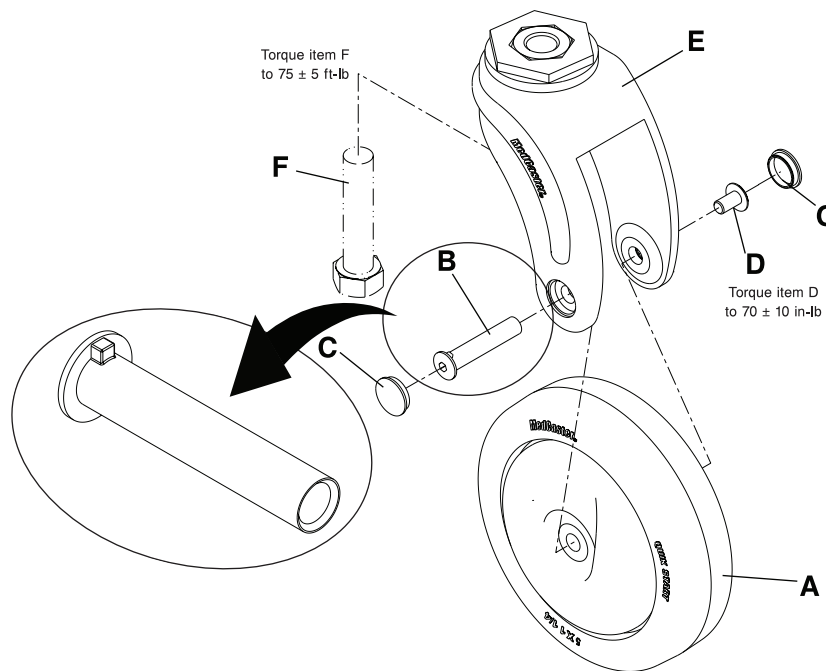

Figure 1-26: Front caster assembly replacement
2. Using a pick, remove and discard the caster wheel axle barrel nut covers (C) (Figure 1-26 on page 1-42).
3. Using two 5/32" hex wrenches, remove the axle barrel nut (B) and axle screw (D). Discard the axle barrel nut and axle screw.
4. Grasp the front caster wheel (A) and pull outward to remove the wheel from the fork (E). Discard the front caster wheel.
5. Using a 3/4" socket and a 3/8" drive ratchet, remove the bolt (F) to remove the fork (E) from the chair frame. Discard the fork.
6. Reverse steps 2-5 to install the supplied front caster wheel assembly. Using a 3/8" drive torque wrench (ft-lb), torque the bolt (F) to  $75 \pm 5$  ft-lb before installing the caster to the fork. Using a 3/8" drive torque wrench (in-lb), torque the axle screw (D) to  $70 \pm 10$  in-lb.
**Note:** The axle barrel nut (B) head is keyed (Figure 1-26 on page 1-42). Properly align the nut in the caster fork (E).